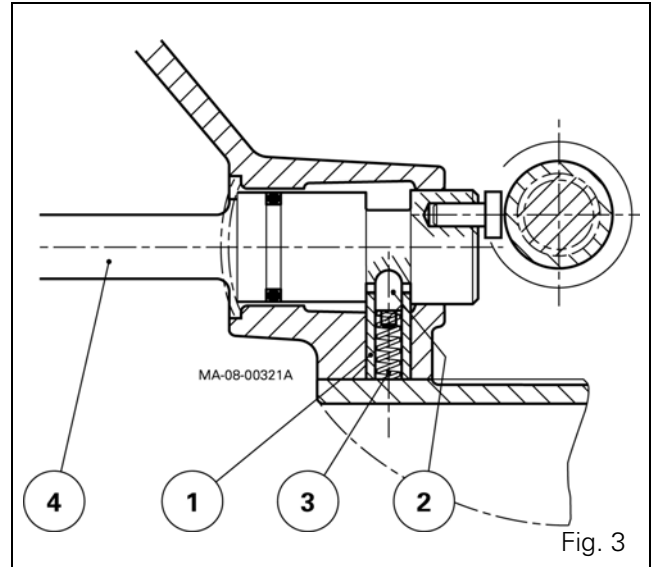

Fig. 3
3. Remove the screws (10) and the cover (17).
NOTE: On tractors fitted with GSPTO, recover the spring (3), locking stud (2) and retainer pipe (1) (Fig. 3).